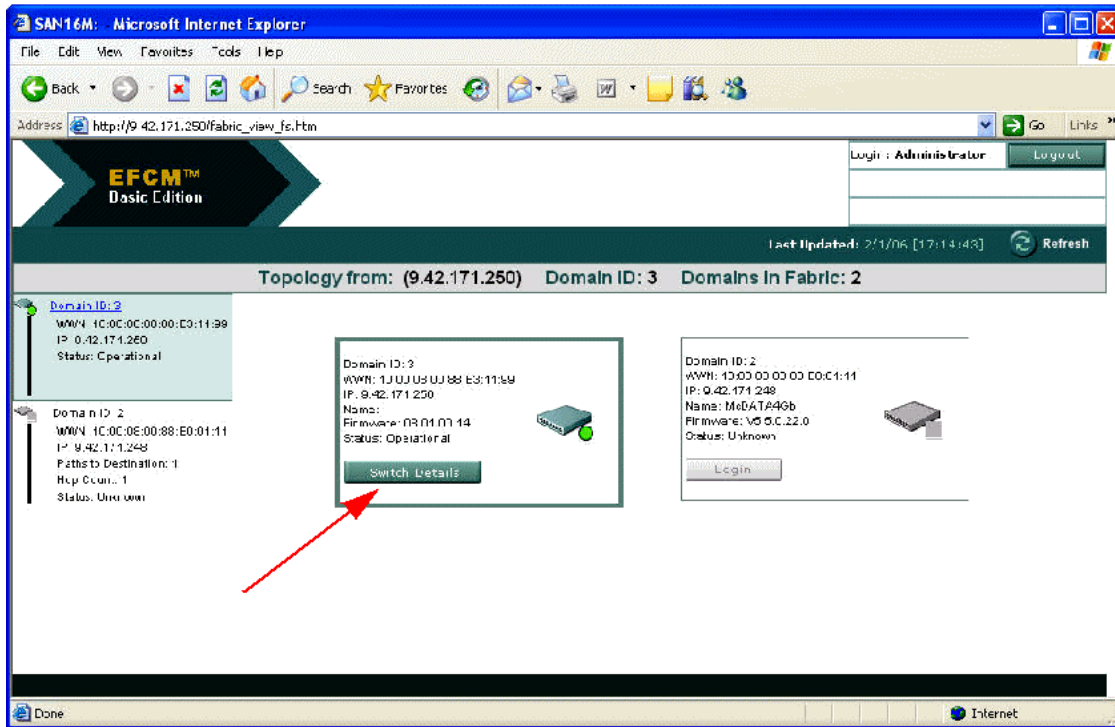

Figure 6-17 Topology window
11. From the Fabric View windows, verify all switches are visible in the topology. Only switches that have successfully merged into the same fabric will be displayed on the Topology window (Figure 6-17).